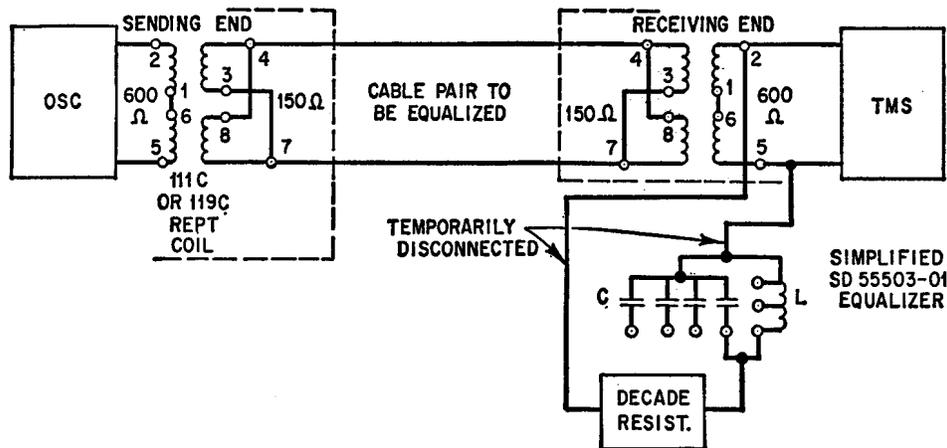

Fig. 1—Test Setup for Equalizing a Single Section with SD-55503-01 Equalizer
2.01 The SD-55503-01 Equalizer is connected to the circuit as shown in Fig. 1. A decade resistor should be used in place of the resistors
4	Connect the equalizer as shown in Fig. 1.